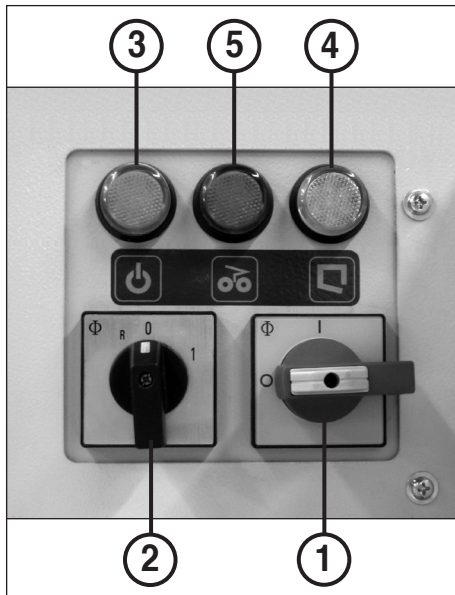

fig. 11
Be certain that the machine is turned off overnight (main switch (1) (fig. 11) switched to „0“).